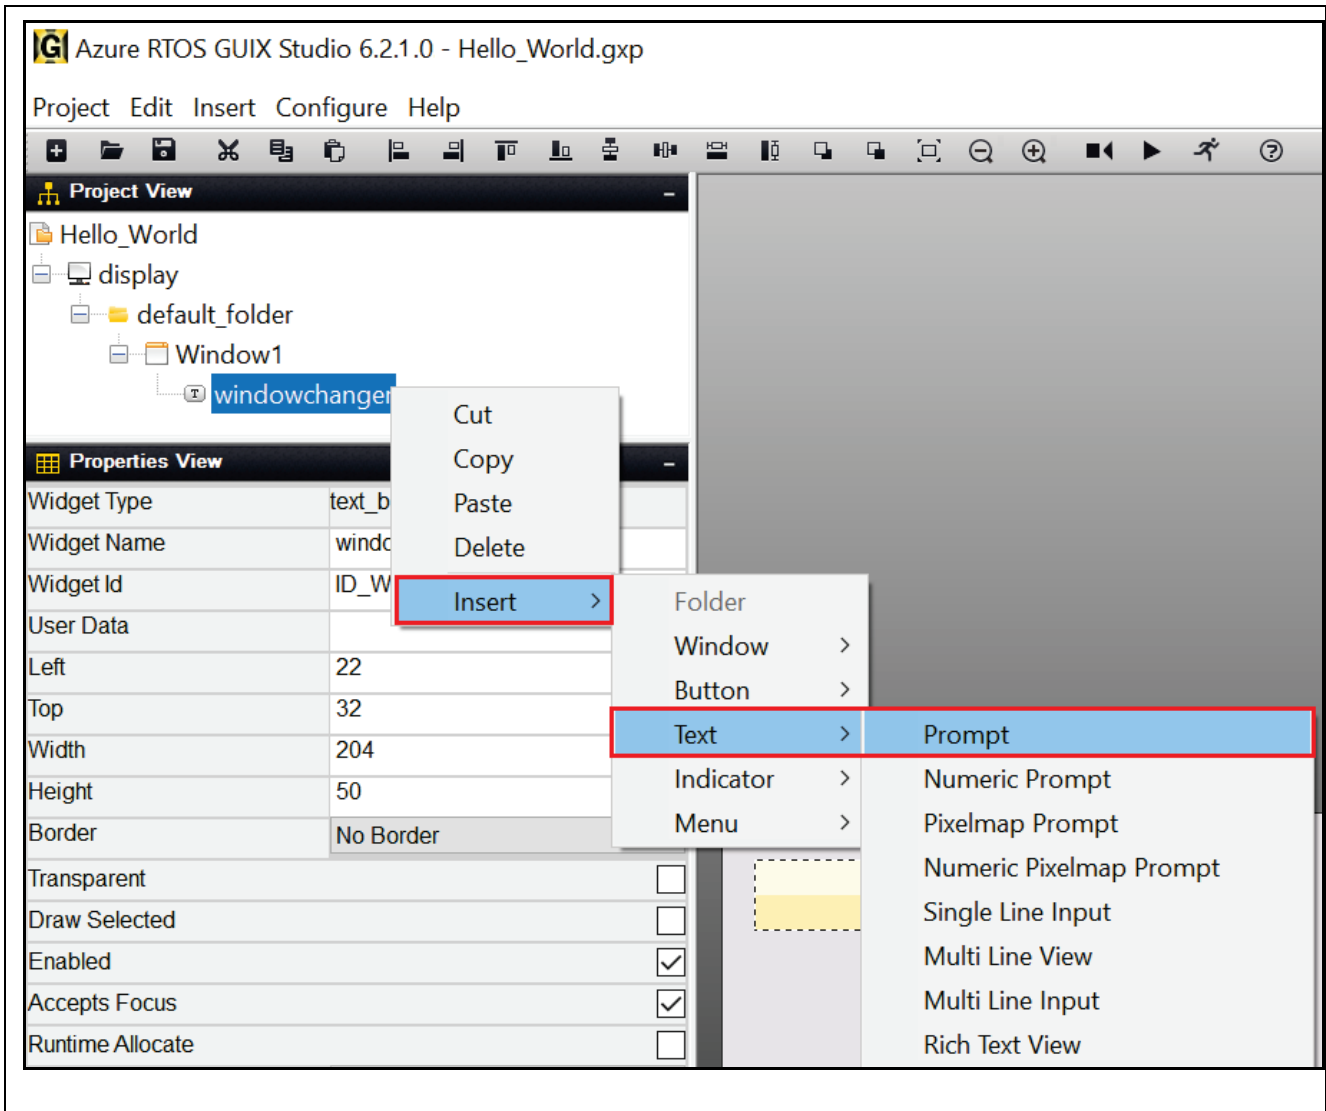

Figure 50. Insert Prompt
13. Right-click **windowchanger** to insert a **Prompt** and follow **Figure 50**.
15. Insert new **Button**. Right-click on **windowchangertext** and follow **Figure 50**.